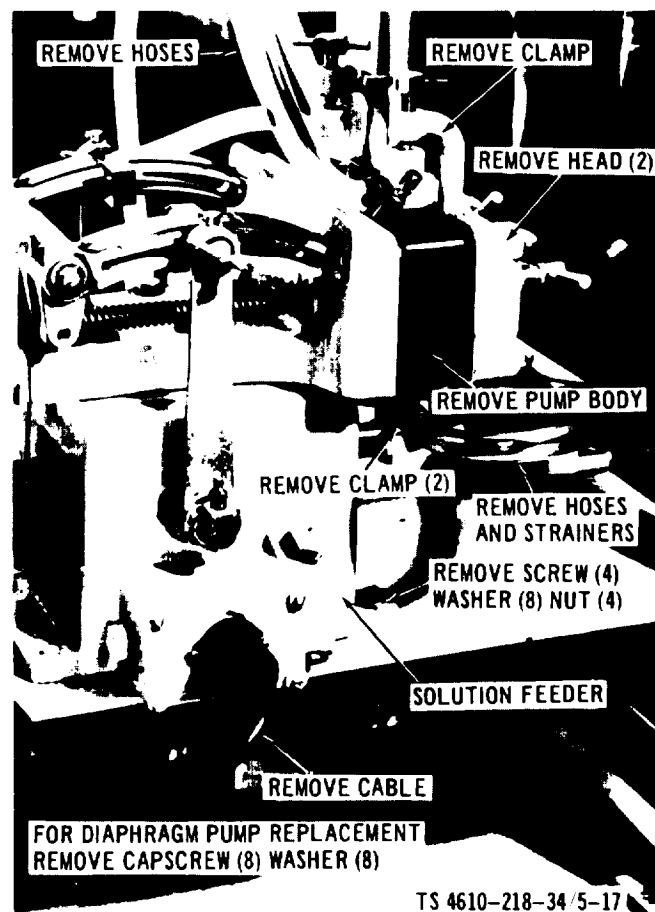

Figure 5-17. Chemical Solution Feeder, Removal and Installation
(1) Remove the chemical solution feeder as illustrated in figure 5-17.
(2) Remove the chemical solution feeder diaphragm pump bodies as illustrated in figure 5-17.
(1) Install the chemical solution feeder diaphragm pump bodies as shown in figure 5-17.
(2) Install the chemical solution feeder as shown in figure 5-17.
(3) Lubricate the chemical solution feeder as indicated in LO 5-4610-218-12.
(4) The rate of discharge from each pump shall be within plus or minus 5 percent of indicated rate at any scale setting and operate against a back pressure from 0 to 5 PSIG and a suction lift from 0 to 6 feet.
(5) Installation must be such that siphoning cannot occur, be sure all hose connections are tightly secured. Filtered water shall be used as the testing solution.
(6) With a suction lift of not less than 1 foot (30.48 cm) and 4 feet (1.219 m) discharge pressure, measure volumetrically the discharge for one minute at a scale setting of 1.2 from each head. Volume from each pumping head shall be 33.2 (plus or minus 1.6) ml/min.
(7) Measure volumetrically the discharge for one minute at a scale setting of 6.0 from each head. Volume from each pumping head shall be 166 (plus or minus 8.3) ml/min
(8) The interval of time after any change of the scale setting and before measuring shall be not less than two minutes.
(9) Failure of the chemical solution feeder to function as specified will require readjustment of the pumping head diaphragms and retesting.